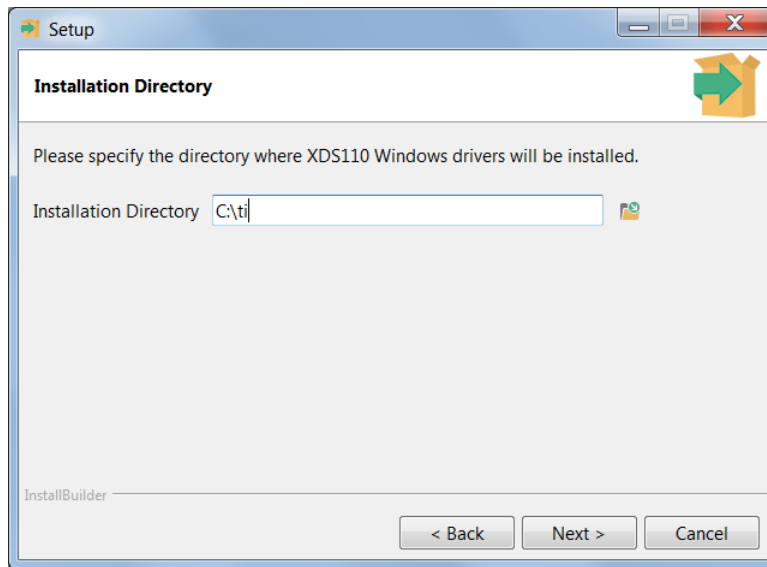

Figure 7. XDS110 Driver Installation Directory
- Specify the installation path (default is c:\ti), and proceed with the installation (see Figure 7).